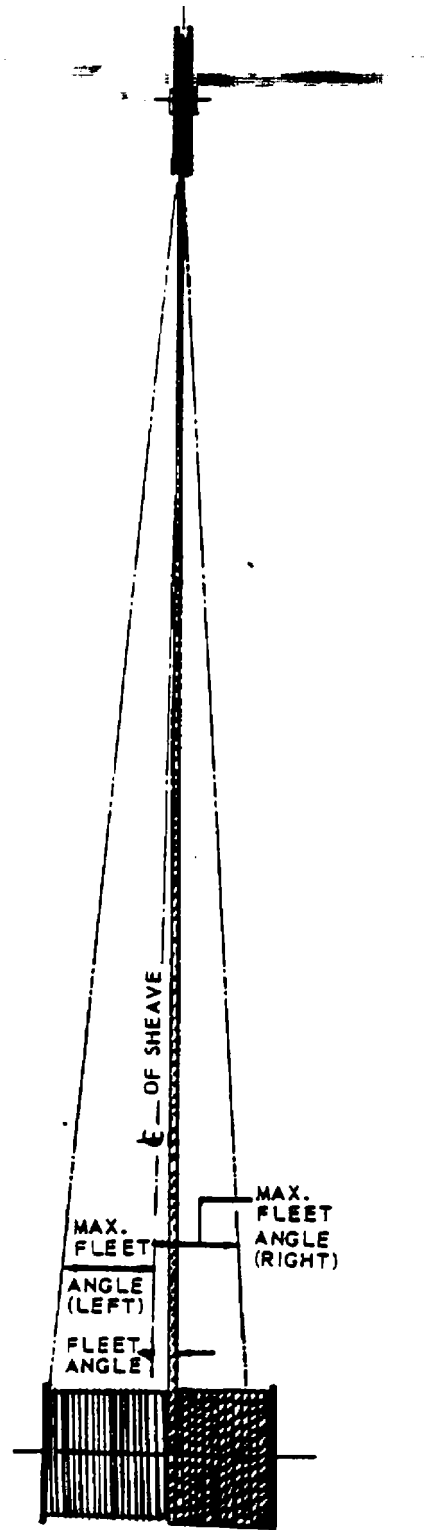

Figure 2-3. Fleet Angle.
(1) -On installations where wire rope passes over lead sheave and on to drum, lead sheave must be located a sufficient distance from drum to maintain a small fleet angle at all times. The fleet angle is the side angle at which cable approaches drum from the sheave (See fig. 2-3).
(2) For best cable service, maximum fleet angle should not be more than 1-1/2 degrees.
(3) Maximum fleet angle is measured between center line of sheave and rope when it is at end of traverse travel on drum. Fleet angles of 1-1/2 degrees are equivalent to approximately 38 feet of lead for each foot of cable traverse either side of center line of sheave. A smooth drum on this winch requires a distance of not less than 42 feet between lead sheave and drum.